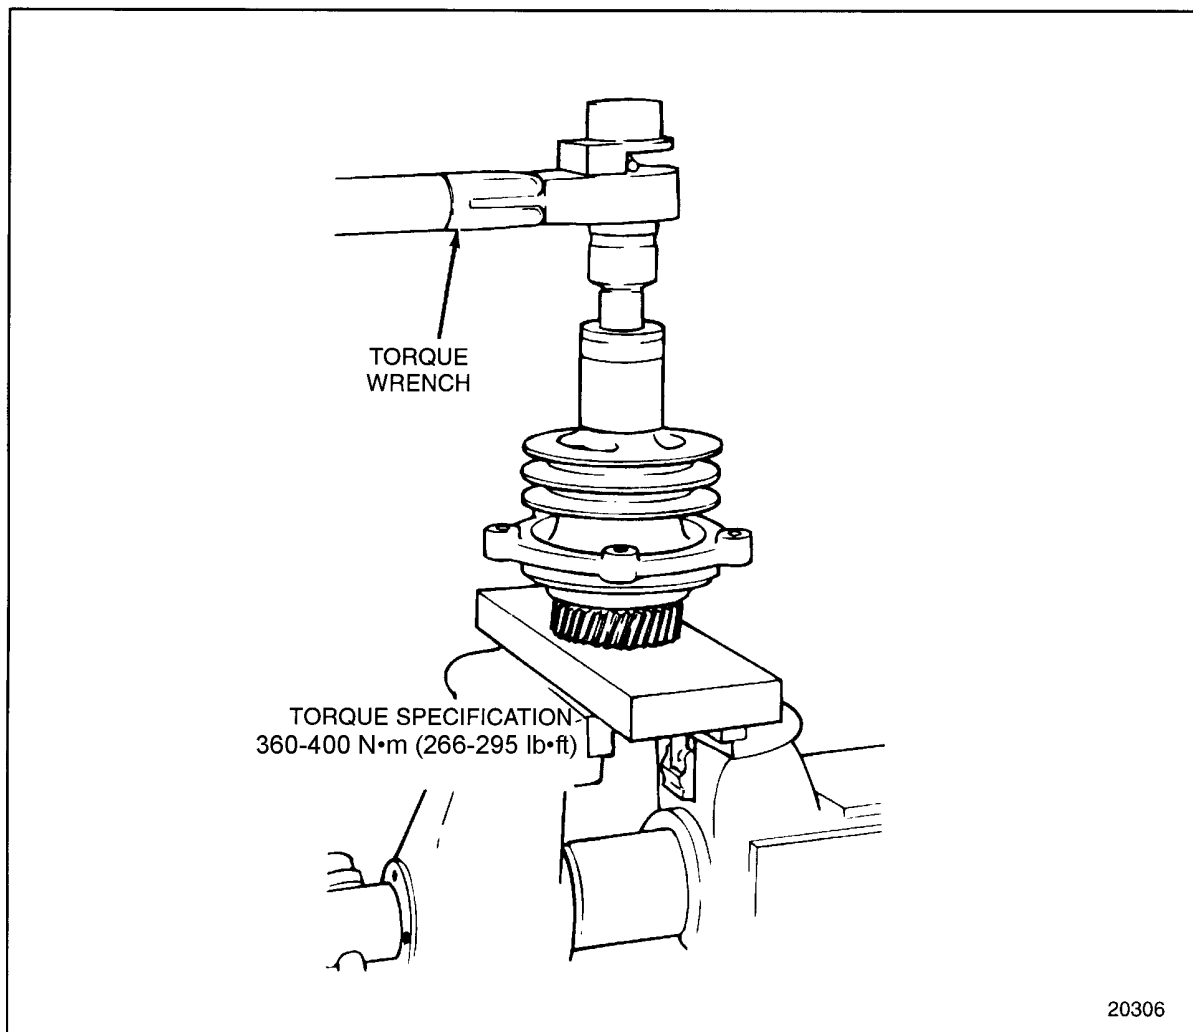

Figure 1-410 Accessory Drive Pulley Locknut Tightening
21. Install and torque the accessory drive pulley locknut to 360-400 N·m (266-295 lb·ft). See Figure 1-410.